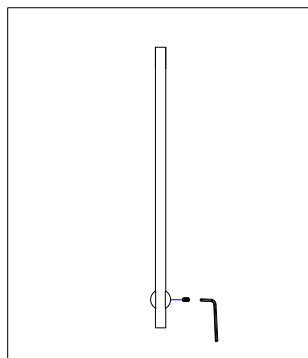

Figure 3
4. Tighten set screw. (Fig. 3)